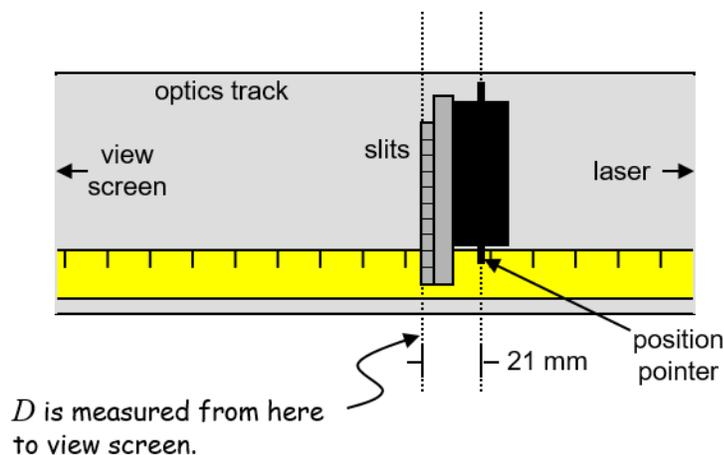

Figure 2: Note distance from position pointer to slits
- Secure the Multiple Slit apparatus on the optics track far from the view screen and close to the laser. The slits-to-view screen distance D is an important parameter. You should aim to have D at least 1000 mm. As an aid to precise positioning note that the horizontal distance from the slits to the near edge of the positioning pointer at the base of the Multiple Slit apparatus is 21 mm as shown in *Figure 2* below.